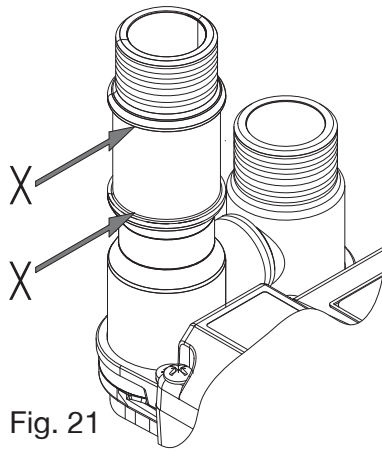

Fig. 21
- For correct operation of the flow switch, the reed must be secured to the body (Fig. 21)
- Locate the reed switch within the body groove as highlighted X-X (Fig. 21), and feed the tie wrap through the second catch.